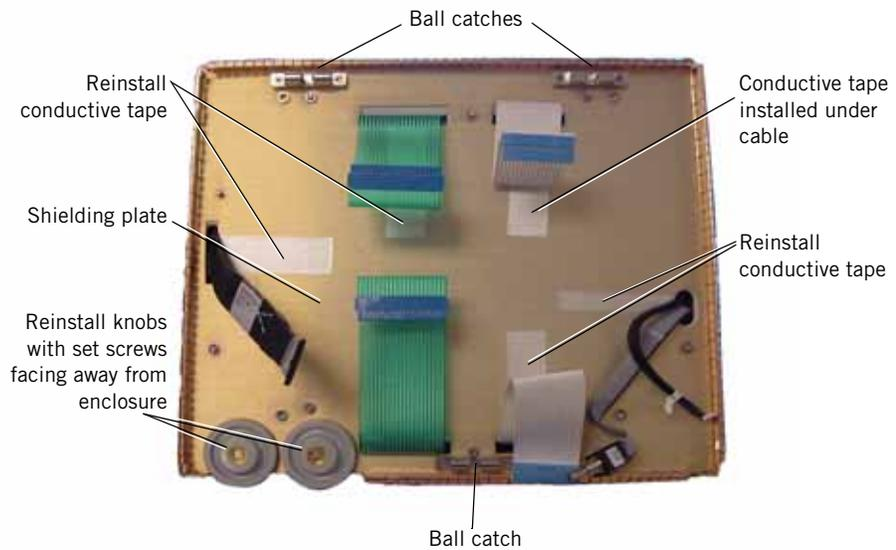

Figure 9-96: Front of Ventilator Before Installing 10.4-in. GUI
10. Attach the new shielding plate and conductive tape (Figure 9-96).